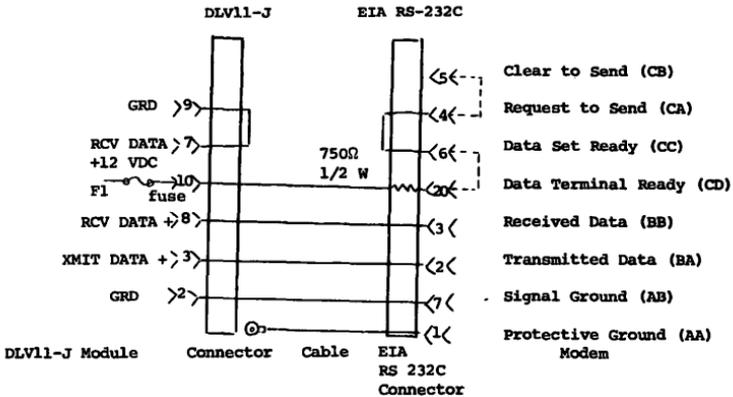

Figure 7 BC21B-05 Modem Cable
- BC21B-05** 5' EIA RS-232C modem cable to interface with modems and acoustic couplers (2 \times 5 pin Amp female to RS-232C male; see Figure 7).